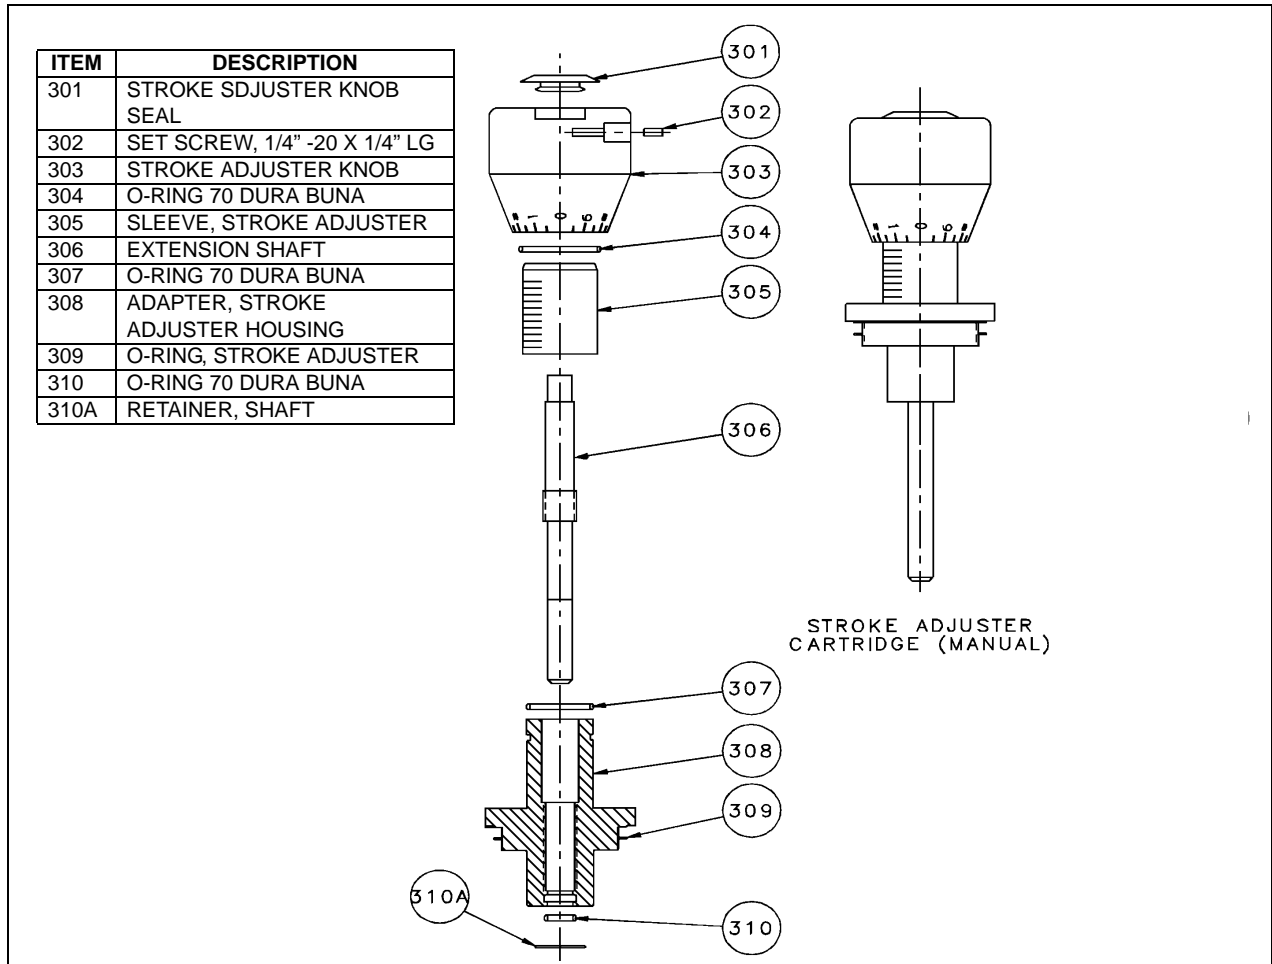

FIGURE 15. Manual Stroke Adjuster.
2. Detach housing (308) using an adjustable wrench and remove assembly. See breakdown of the assembly in Figure 15.
4. The knob o-ring, item 304, is located inside, at the end of bore. Remove with small angled tool. If replacement is necessary, lubricate with light oil.
5. Sleeve o-ring, Item 307, is located on outside of adjuster housing (308). If replacement is necessary, do not lubricate.